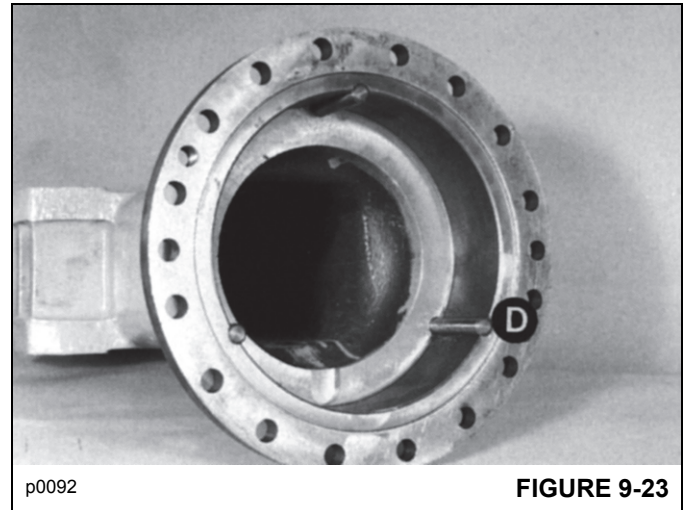

FIGURE 9-23
4. Locate the three reaction pins **D** Figure 9-23 into their grooves, securing them with grease. Push the pins fully into their location holes in the housing.